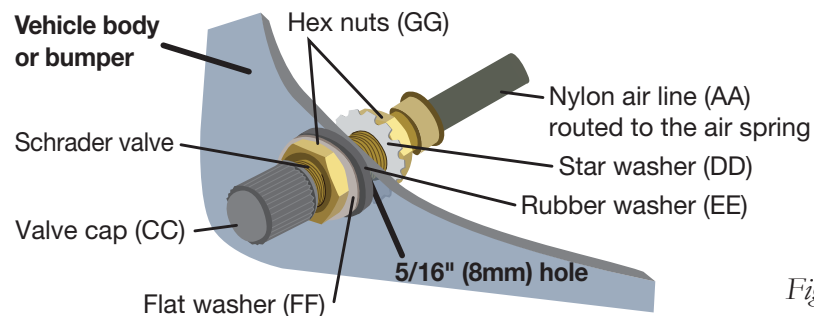

Fig. 17
3. Use zip ties (BB) to secure the air line to fixed points along the chassis. Do not pinch or kink the air line. Leave at least 2" (51mm) of slack in the air line to allow for any movement that might pull on the air line. The minimum bend radius for the air line is 1" (25mm).
4. Install the Schrader valve in the chosen location (Fig. 17).